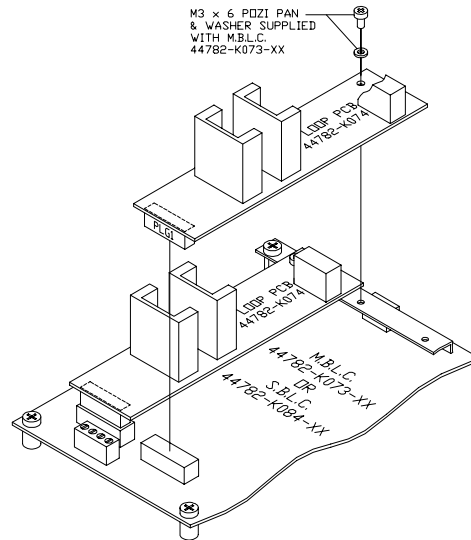

Figure 34: Loop Card Installation
2. Install the 44782-K074 card into the next available fixing plug located on the BLC motherboard card as shown in Figure 34.